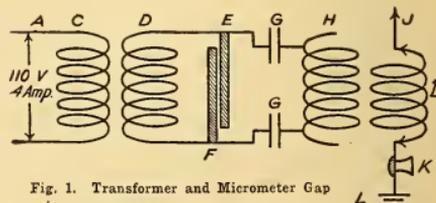

Fig. 1. Transformer and Micrometer Gap
A simple system which all amateurs owning a wireless station can install with no additional expense other than a common telephone transmitter, is shown in Figs. 1 and 2.
spot, the spark takes another spot along the bowed carbons, always finding a new and cool spot for the spark to take place. From the terminals (E) and (F), Fig. 1, condensers (G) each made of four glass plates 10 by 10 inches, are connected to the primary (H) of an oscillation inductance. The aerial (J) connects on one terminal of the secondary (I) while from the other a wire passes through a transmitter of any make and then to ground (L). In place of one transmitter, a number may be connected either in series or parallel.